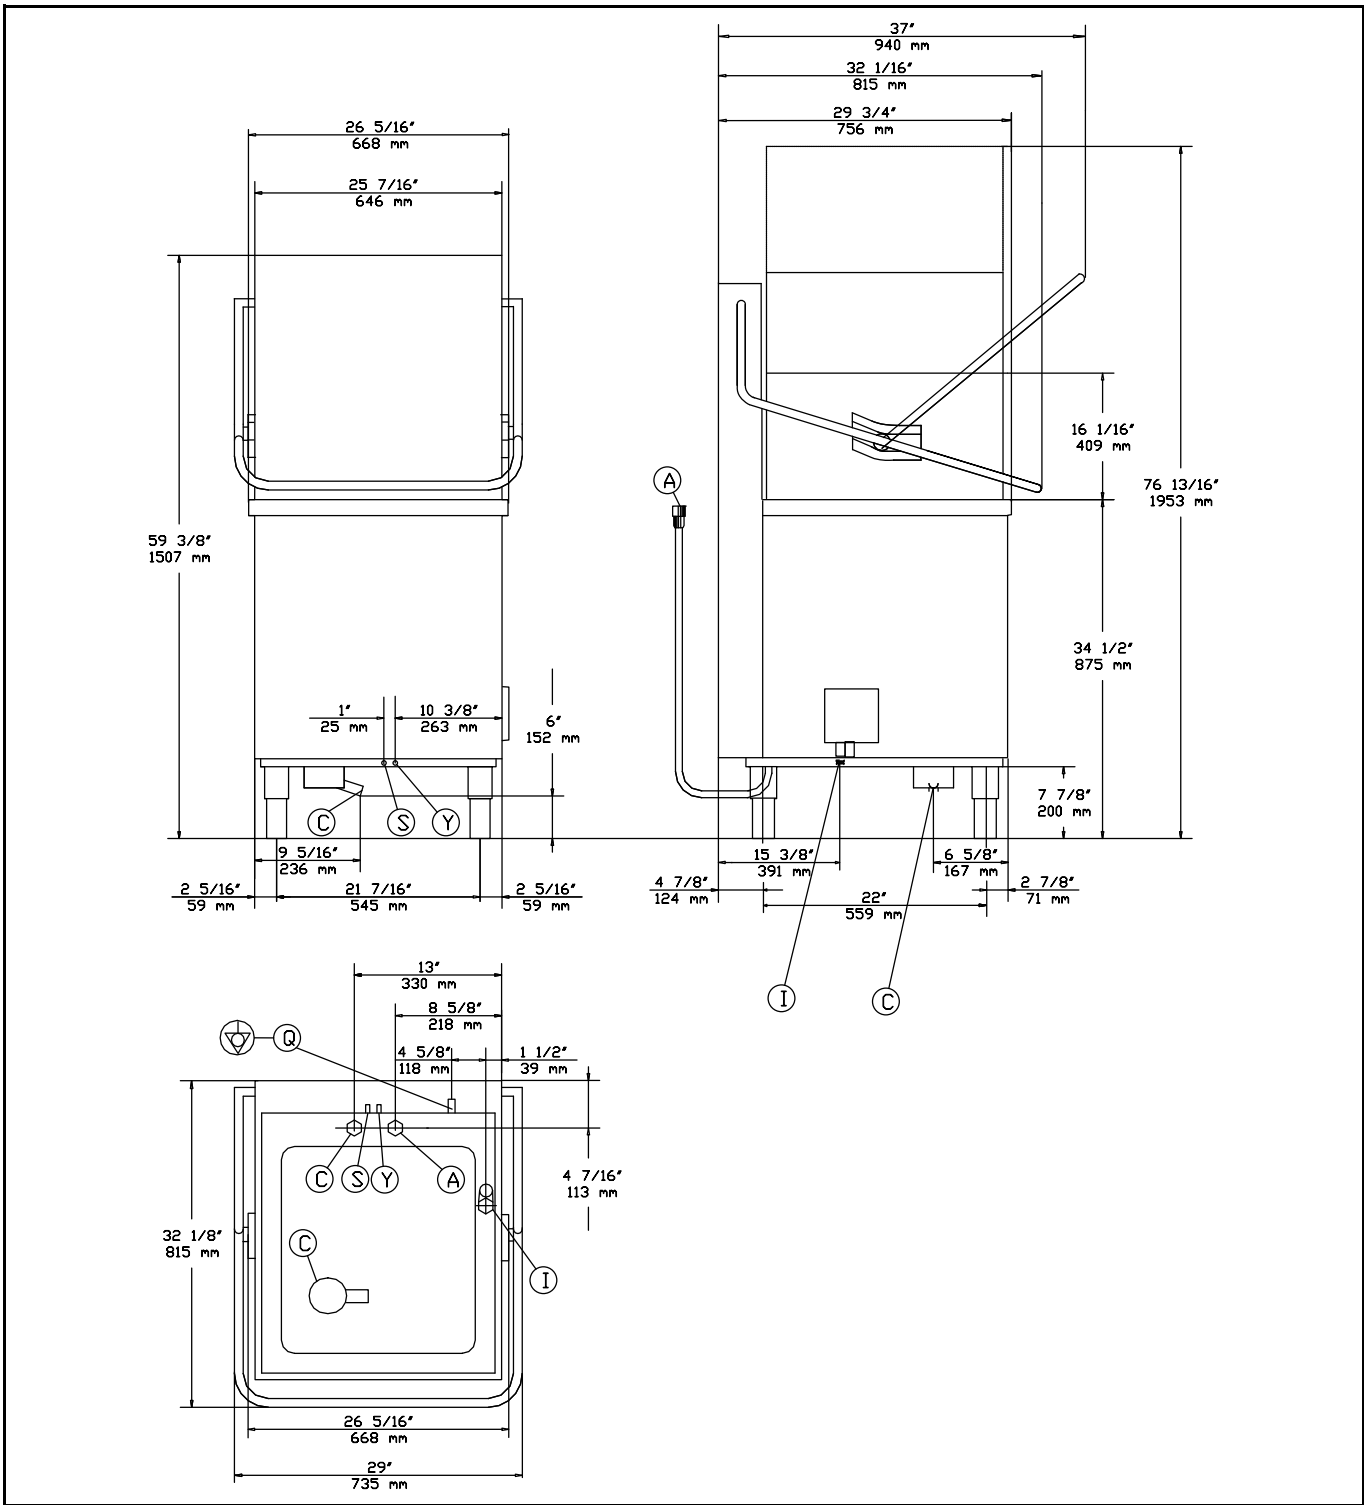
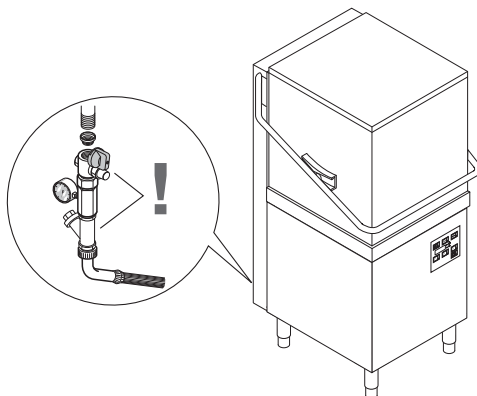

Figure 4
Figure 6
Legend Figure 4
- Connect the appliance water supply pipe “A” (Figure 4) (keeping with local plumbing codes) to the incoming water supply. Install a shutoff valve, Y-Strainer and a pressure gauge between the appliance and the incoming water supply of the unit (Figure 6).
connect the waste outlet pipe “C” (Figure 4) to the main drain pipe, using a trap, or place the outlet pipe over an “S” trap set into the floor.
- The appliance requires a ground connection to the unit ground screw located at the rear of the unit marked "Q" (Figure 4) in the manual and marked with the symbol "⚡" on the unit. The ground wire must have a cross section of AWG 6/13,3 mm². Do not use the wiring conduit or other piping for ground connections. If necessary, have the electrician supply the ground wire.